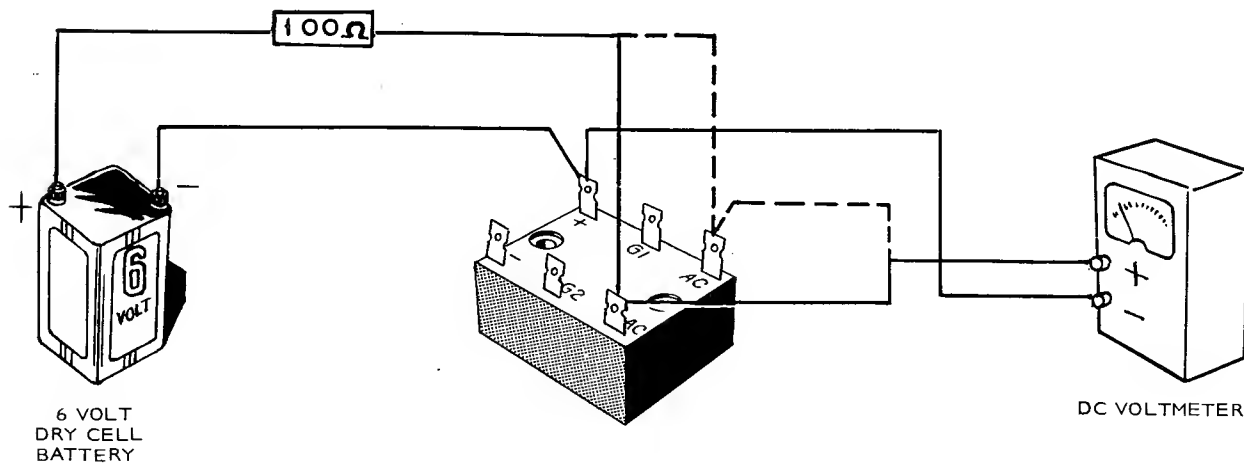

FIGURE 24. TESTING SCR
Disconnect wires from rectifier unit prior to testing. Test unit in order shown in Table 2. Refer to Figure 24 for CR4 and CR5 test circuit. When test is complete and satisfactory, reconnect unit observing correct wiring hook-up.
* Apply temporary jumper from AC1 to G1 to test CR4. Remove jumper, read voltmeter. See Figure 24.
** Apply temporary jumper from AC2 to G2 to test CR4. Remove jumper, read voltmeter. See Figure 24.